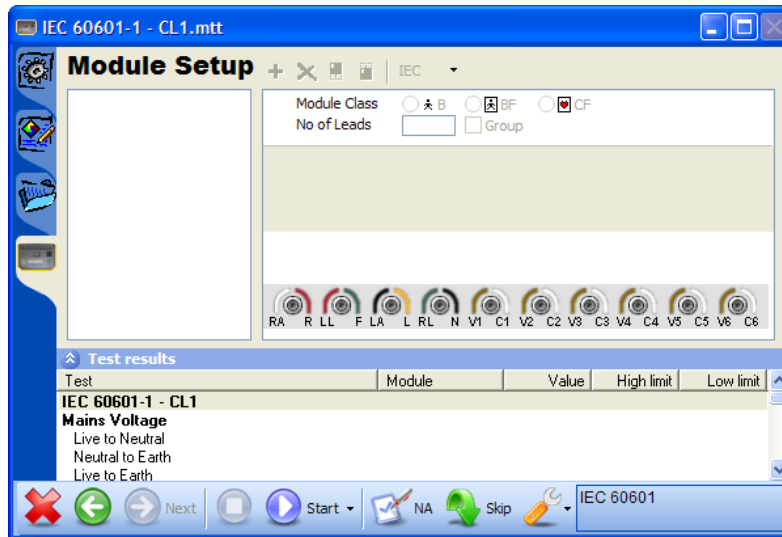

Figure 3-7. Module Setup Window
1. Click the **Module Setup** tab on the left-hand side of the Test Guide to open the Module Setup page as shown in Figure 3-7.
If AAMI module nomenclature is selected, the module class options will be different than those shown in Figure 3-7.